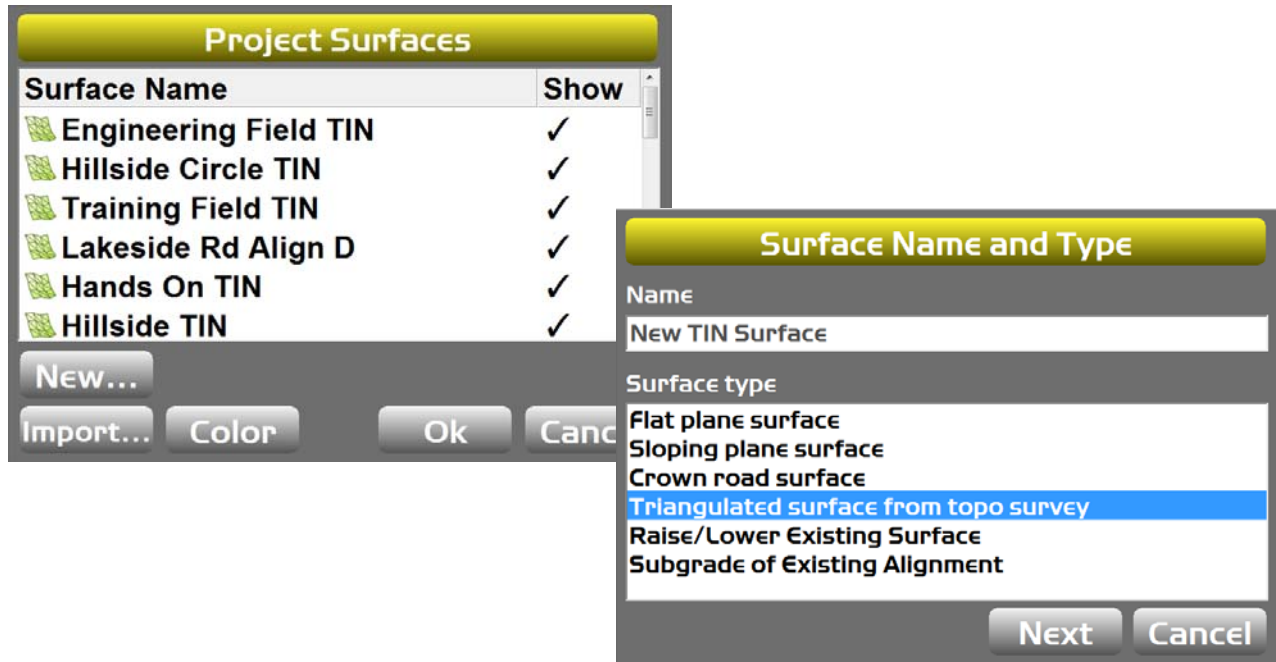

Figure 39: Project Surfaces Screen – New TIN Surface
3. From the **Surface Name and Type** screen, enter a name, and select **Triangulated surface from topo survey** (Figure 39).